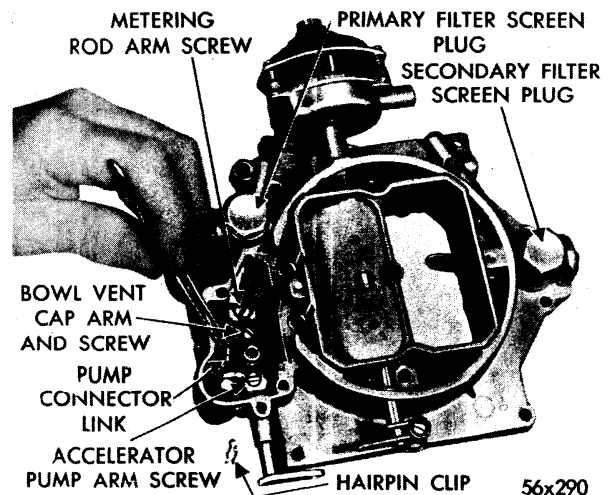

Fig. 41—Removing Accelerator Pump Connector Link
40. It is advisable to keep parts from primary side of carburetor separated from those of secondary side. Remove primary and secondary float needle valve and seats. Rotate vacuumer piston 90° to either side and remove from vacuumer link. Remove hairpin clip and disengage accelerator pump connector link from plunger shaft and arm, as shown in Figure 41. Slide pump plunger, spring and spring guide washer out of air horn. Check leather on plunger for wear, cracking or stiffness. **The leather must be soft and pliable.** Install new pump plunger if any of these conditions are apparent. Place accelerator pump plunger in jar of clean gasoline to prevent leather from drying out. Remove air horn gasket.